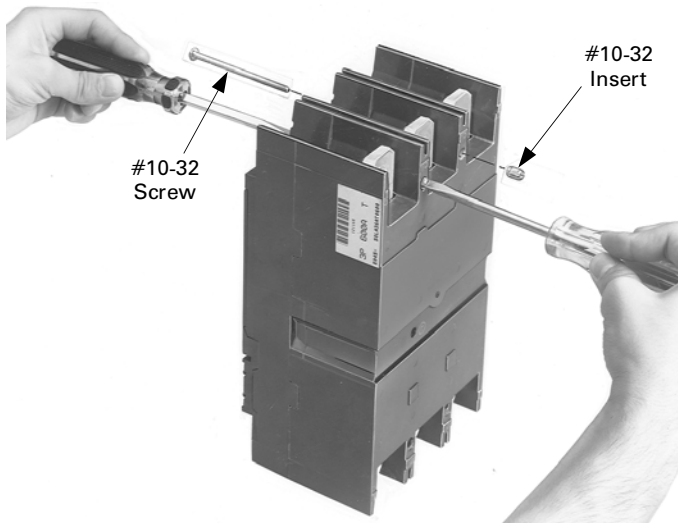

Figure 1. Installing line-end mounting screws in the breaker.
- 1. Prepare the circuit breaker(s).** Before installing the breakers, install line-end mounting screws into the ON side of each breaker. Place the breaker vertically on a flat surface with the ON side up and the OFF side down, as shown in Figure 1. Install #10-32 pan-head screws into the ON-side holes on the top of the breaker. Install #10-32 inserts into the ON-side holes on the bottom of the breaker. Using two screw drivers, tighten both the insert and the screw to 20–25 in-lb.